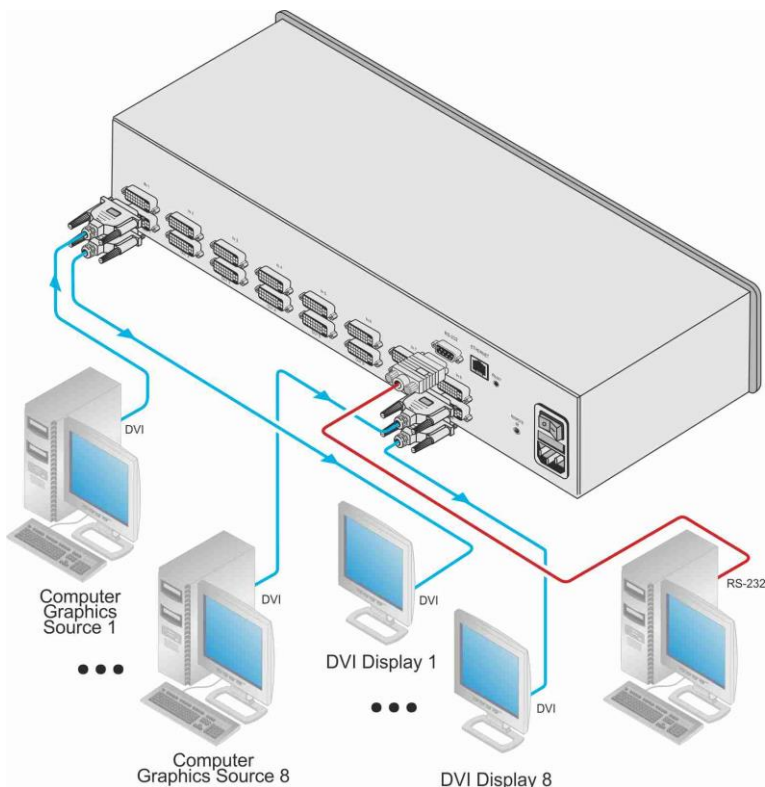

Figure 3: Connecting to the VS-88HDCPxI Rear Panel
To connect the **VS-88HDCPxI** as illustrated in the example in Figure 3:
4. Connect the device to the mains electricity (not shown in Figure 3).